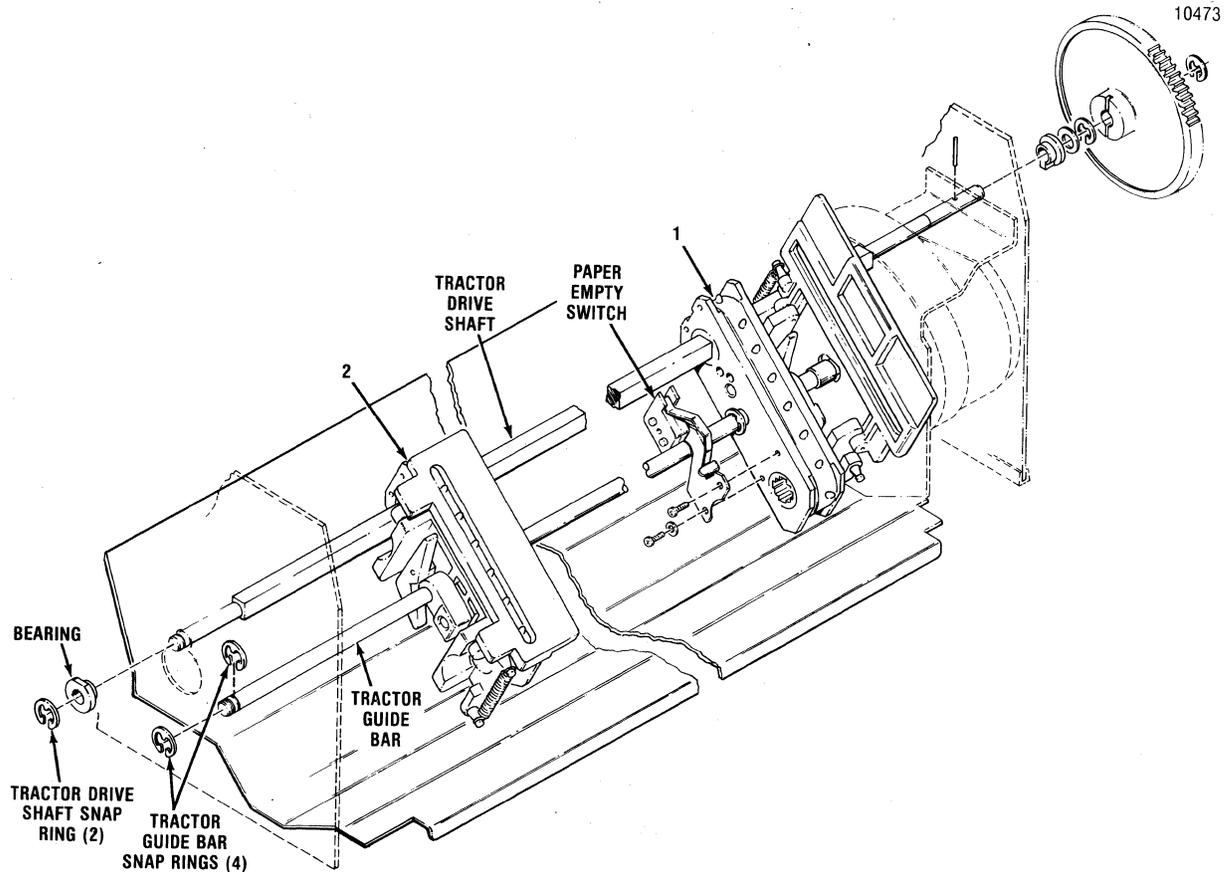

Figure 5-16. REMOVAL/REPLACEMENT, TRACTOR ASSEMBLIES
The left and right tractor assemblies, items 1 and 2 of Figure 5-16, are located on the tractor drive shaft and tractor guide bar. The tractors are removed using a snap ring tool. To remove the tractors, refer to Figure 5-16 and perform the following steps: